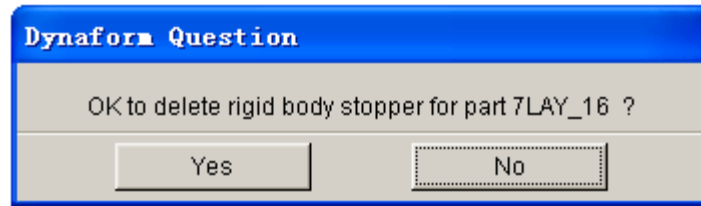

Figure 5.6.14 DYNAFORM Question dialog box
- Select DELETE to remove the defined rigid body stopper. Select Yes from the eta/DYNAFORM dialog box as illustrated in Figure 5.6.14 to remove the definition of rigid body stopper.